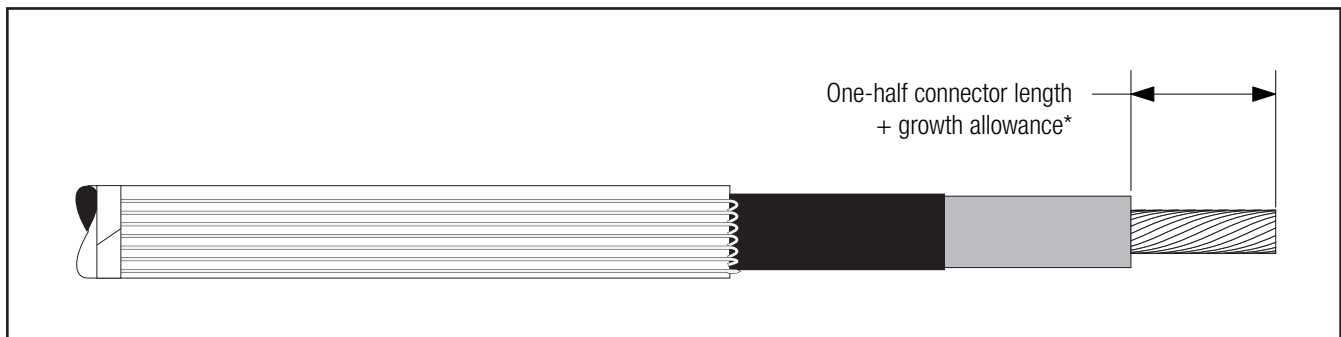

Figure 10
3.3 If using a crimp type connector, remove cable insulation for 1/2 connector length plus an allowance\* for increases in connector length due to crimping. Insulation removal length shall not exceed 2 1/2" (64 mm) from conductor end. **Do not install connector now** (Figure 10).